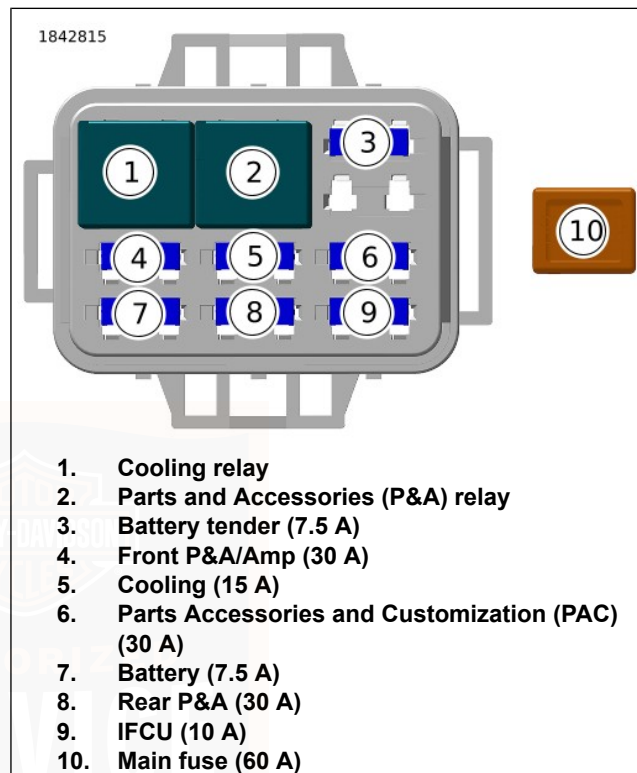

Figure 112. Fuses and Relays Identification
4. See Figure 112. Remove fuse and inspect the element.